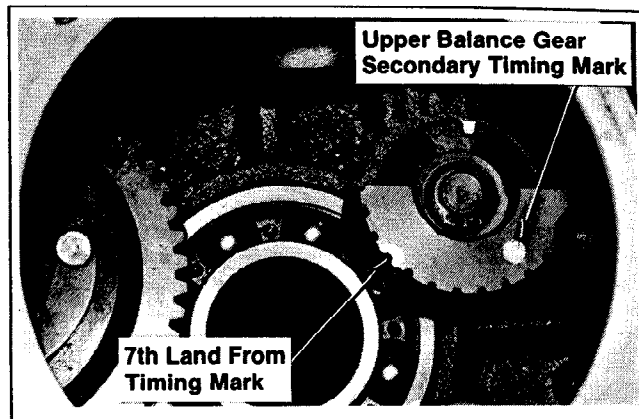

Figure 12-26. Marking Land On Upper Balance Gear.
Upper Balance Gear – Locate the secondary timing mark on balance gear. Starting with the land next to the timing mark, count **seven (7)** lands in a **clockwise** direction. Mark the seventh land. Refer to Figure 12-26.